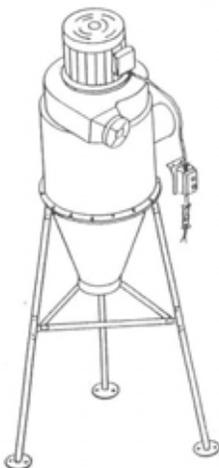

FIG. 5
5. Assemble the collector support frame with reducing collector support frame by 16 hex head screws $1/4'' \times 1''$ and nuts. Stand the unit upright. (Fig 5)